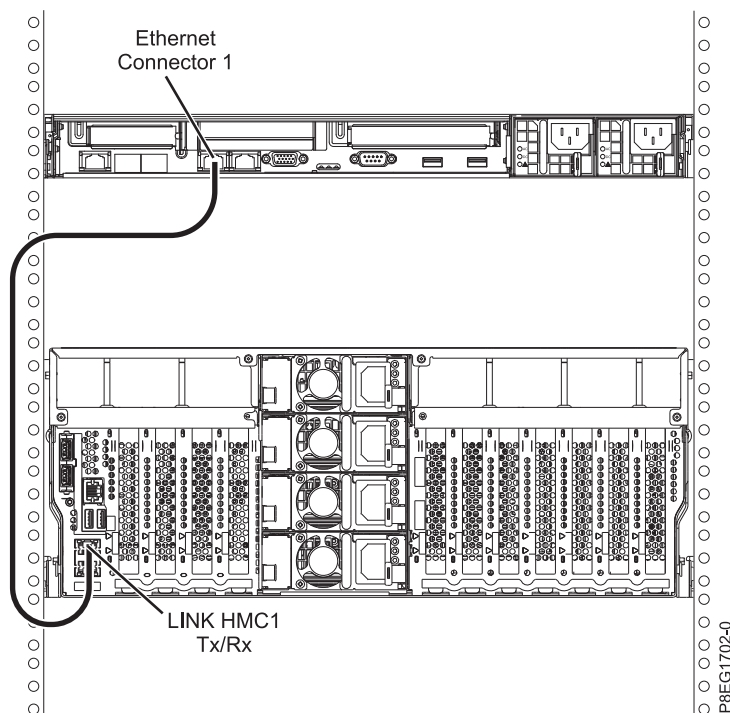

Figure 12. Attaching the HMC to the managed system
1. If you want to directly attach your HMC to the managed system, connect **Ethernet Connector 1** on the HMC to the **HMC1** port on the managed system. See Figure 12.